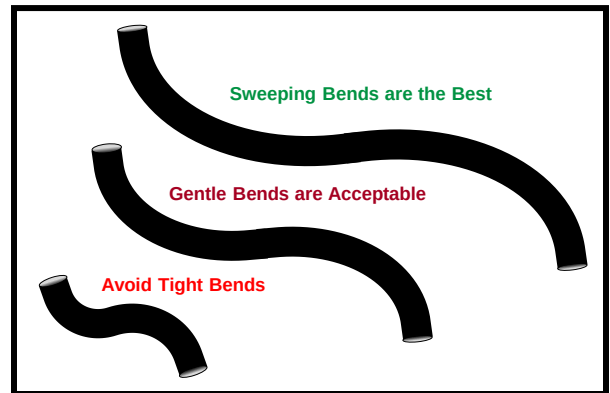

Figure 13
13.5 Avoid tight S-curves as they have the greatest negative effect on Fiber Bundle blowing performance. Make any S-curves as flowing and gentle as possible. A better solution is to install a straight section of run between the curves to reduce friction / drag on the moving Fiber Bundle. See Fig. 13.